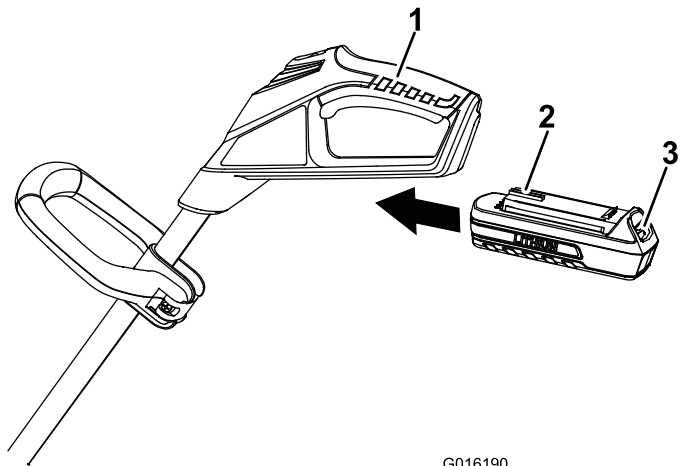

Figure 6
1. Align the tongue of the battery pack with the cavity in the handle housing (Figure 6).
2. Grasp the trigger handle (Figure 6).